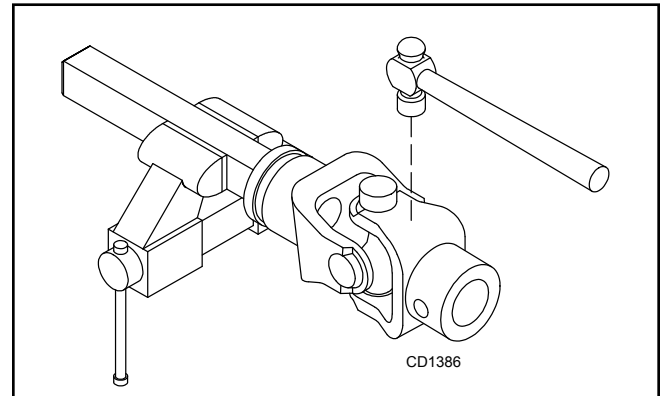

Figure 18.
2. With snap rings removed, support drive in vise, hold yoke in hand and tap on yoke to drive cup up out of yoke. See Figure 18.